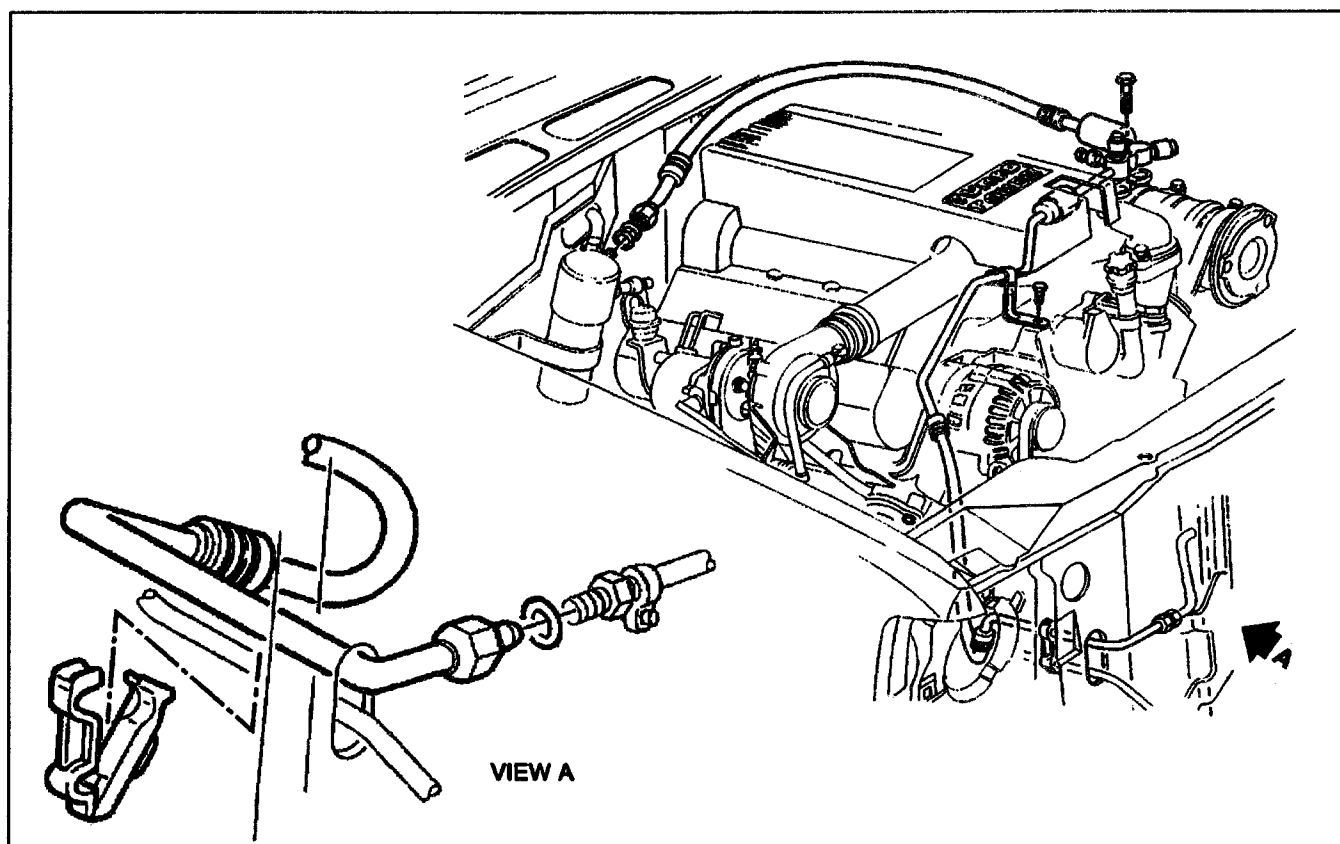

Figure 32—Compressor and Condenser Hose Assembly
- All Models (6.5L Diesel Engines w/o Aux. A/C), Figure 32.